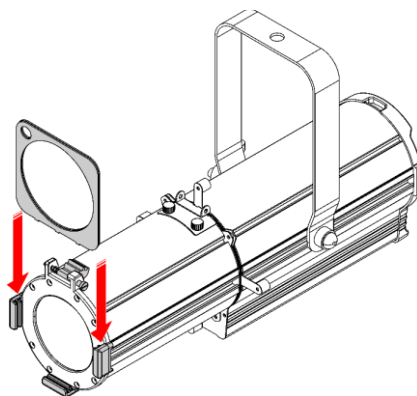

Fig. 11
- 03) Insert the color frame into the **color frame holders (04)** (see Fig. 11).